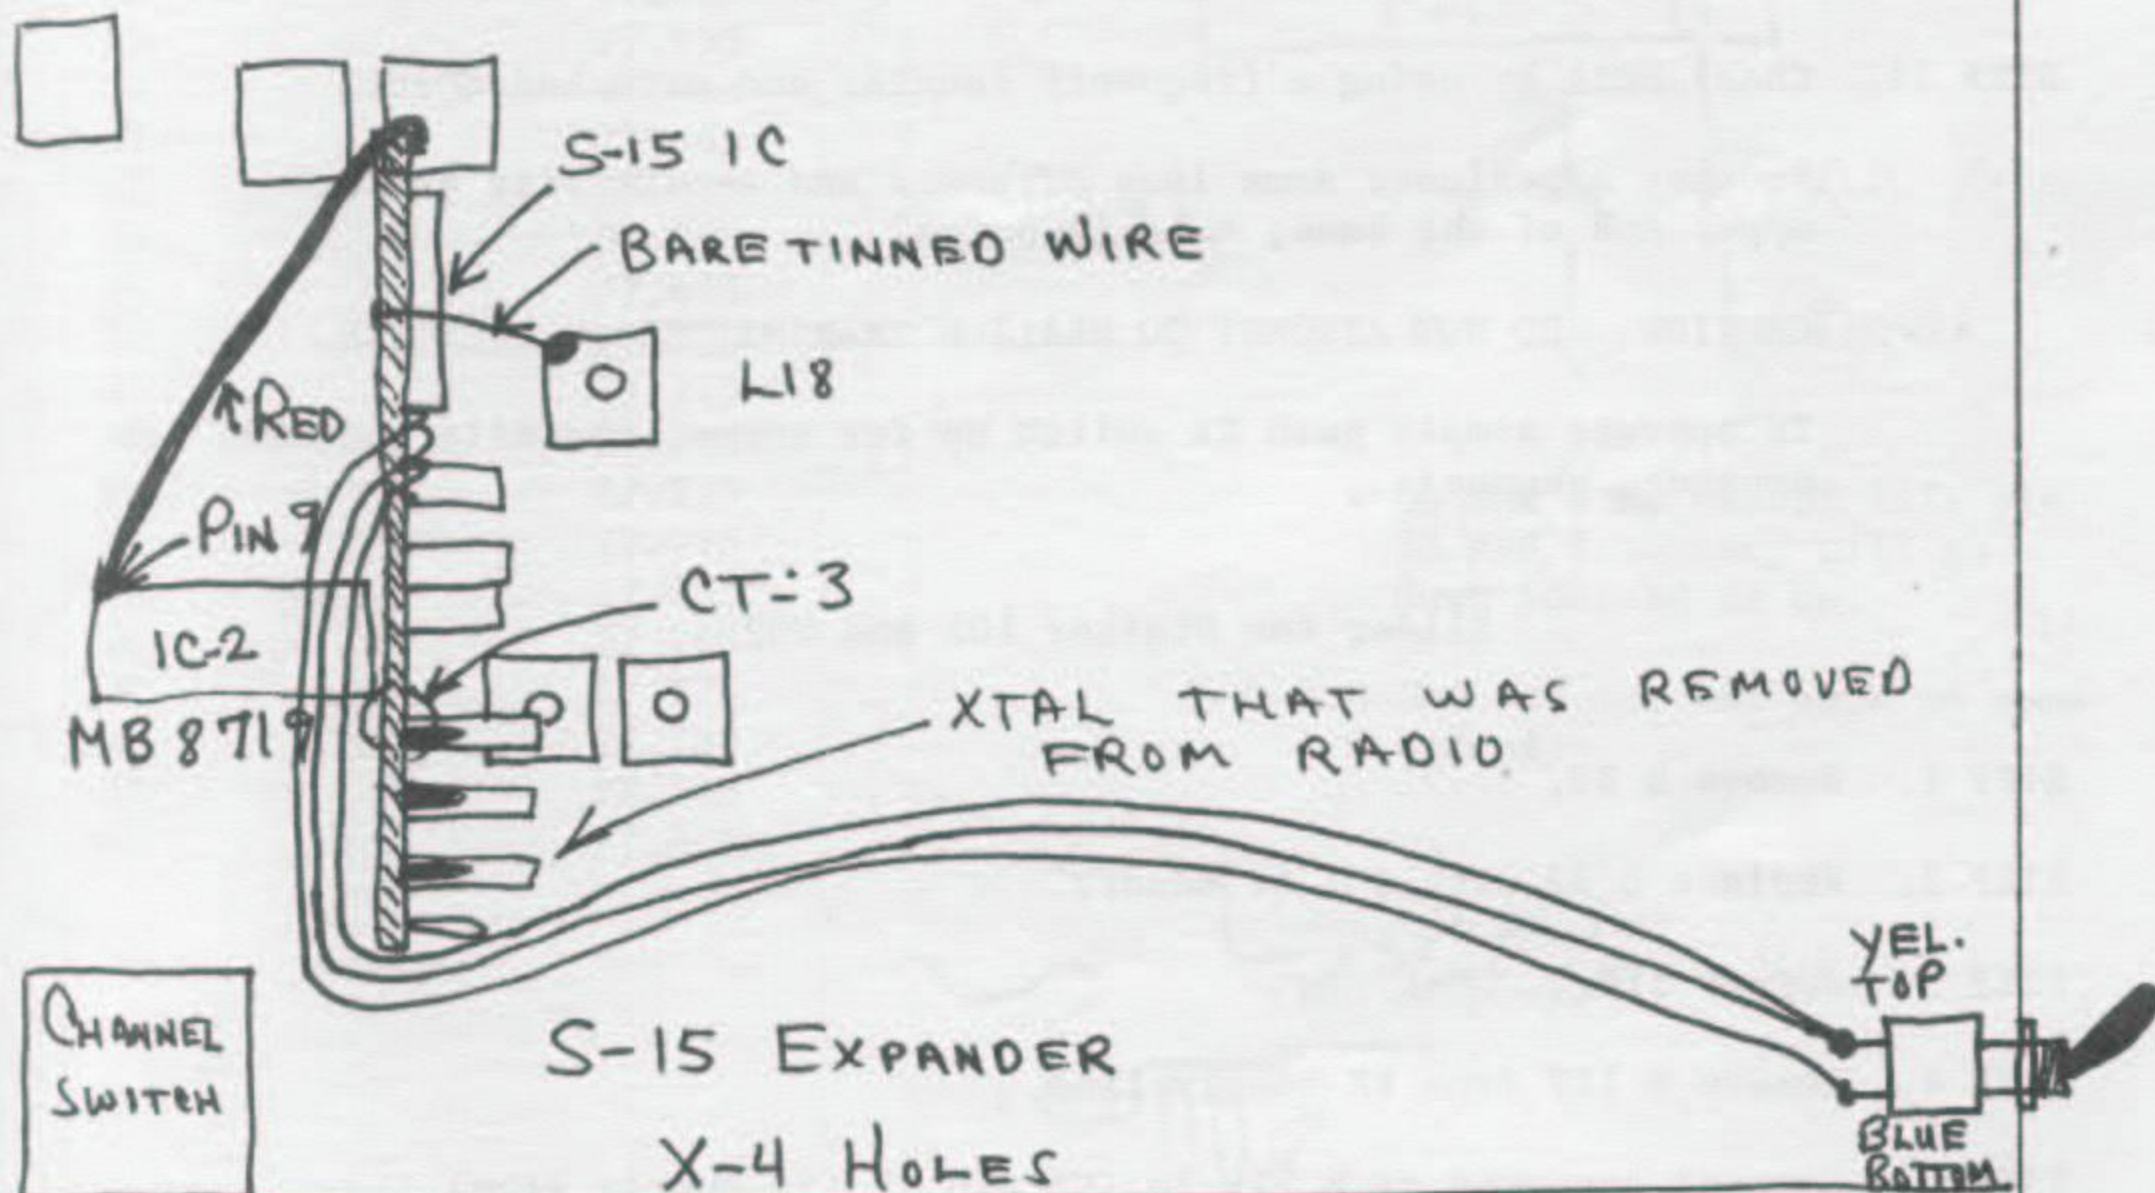

FIGURE 1
- STEP 2. Locate PLL and remove cover in Fig. 1.
- STEP 3. Locate D858 in Fig. 1 and cut pin 19 close to PC Board as indicated in Fig. 2.
- STEP 4. Solder a 1,000 Ohm  $\frac{1}{4}$  watt resistor from pin 19 to supply line in Fig. 1.